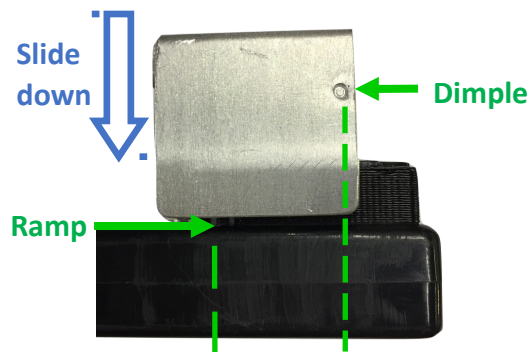

Figure 5.3 Slide the shield back on the case
7) Push the Alpha/Beta shield back on the case (see Figure 5.3) with the assistance of the ramps on the sides of the sensor window*.